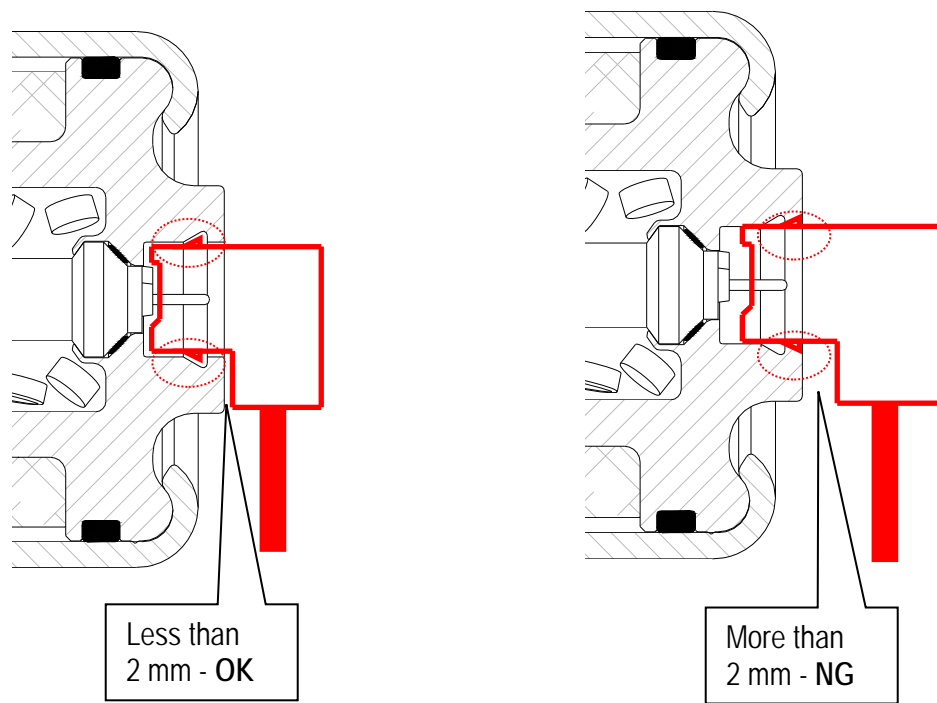

Figure F20
- Make sure harness connector is fully engaged / seated (see Figure F20).